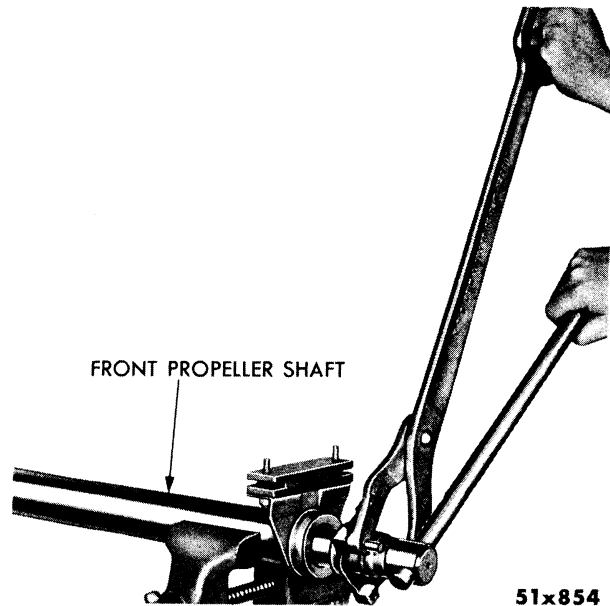

Fig. 14—Removing Companion Flange Nut
- (1) Clamp front propeller shaft in a vise and remove cotter pin. Place Tool C-784 over flange (Fig. 14) and remove flange nut and flat washer.